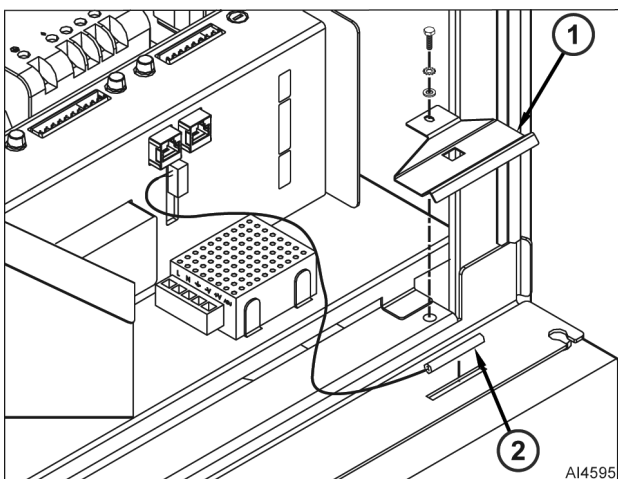

Fig. 41
- Remove screw, washers, clamp (1, Fig. 41) and door sensor (2) from oven frame.